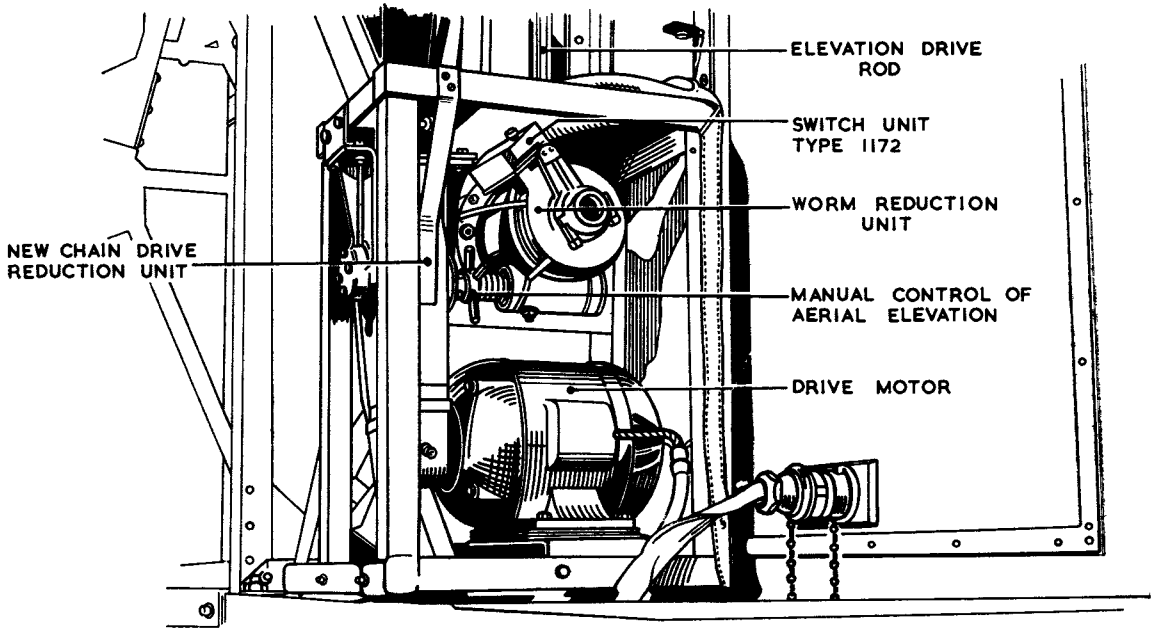

Fig. 14. Elevation gearbox
- (1) Close the ELEVATION CONTROL switch (R.V.467 distribution board).
- (2) Close the master switch (inside R.V.461C).
- (3) Close the elevation switch (display unit Type 5, console 3).
52. Any one of the three switches may be used to stop tilting, but that on the display unit will bring the aerial to rest at a pre-determined angle of elevation which depends on the setting of switch unit Type 1172 attached to the motor shaft. Since the motor cannot stop instantaneously, because of the inertia of the system, it will be necessary to experiment with the switch unit setting until a point is reached so that the aerial stops at the required angle of tilt (usually minimum). Two knurled screws must be slackened in order to adjust the position of the striking area of the switch unit (*fig. 14*). Modification 405/1 may have been done on the equipment. This involves replacement of switch unit Type 1172 by switch unit Type 902 and gives elevation strobe facilities (*para. 11A*).